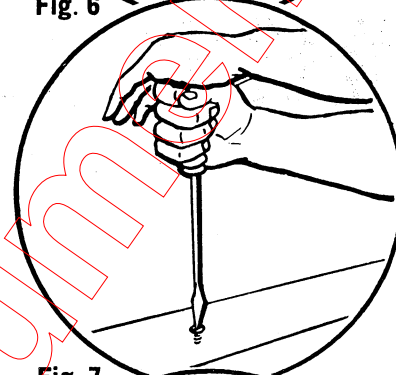

Fig. 7
- When using the screwdriver, push against the head of the screw as you turn it. (Fig. 7)